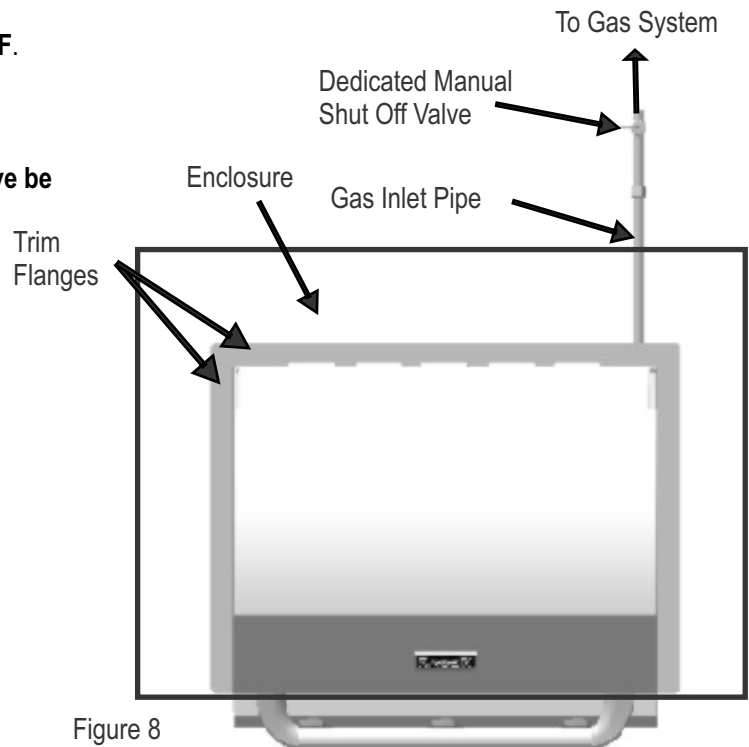

Figure 8
**NOTE:** It is recommended that a manual shut-off valve be installed outside the grill enclosure (see Figure 8).